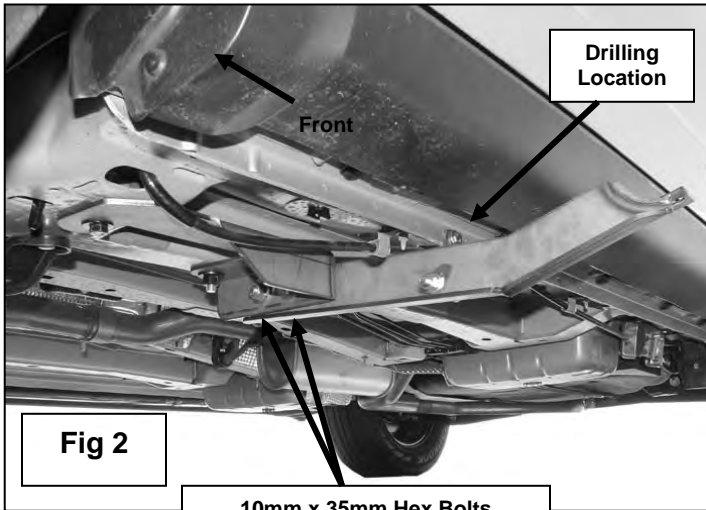

Fig 2
2. Starting at the driver side front, install the 12mm x 35mm Short Bolt Plate in the location pictured in **Figure 1A**. Next, insert the 12mm Nut Plate into the hole in the underside of the vehicle pictured in **Figure 1B**. Locate the driver side Front Frame Bracket and hang it from the previously installed Nut and Bolt Plates using (1) 12mm x 35mm Bolt, (2) 12mm Lock Washers, (2) 12mm Flat Washers and (1) 12mm Hex Nut, (**Figure 2**). Do not tighten hardware at this time.